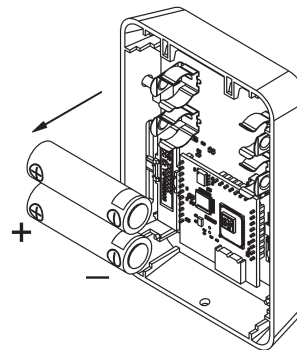
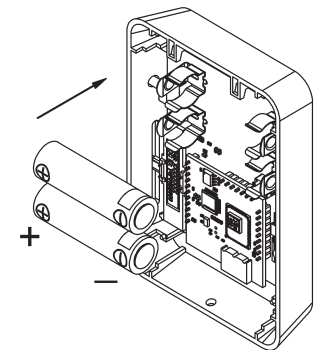

Fig. 8: Battery removal
Fig. 9: Battery replacement
2. **Battery Replacement:** Remove the batteries from their holders and discard (Fig 8). Replace with new batteries in the correct orientation (Fig 9).